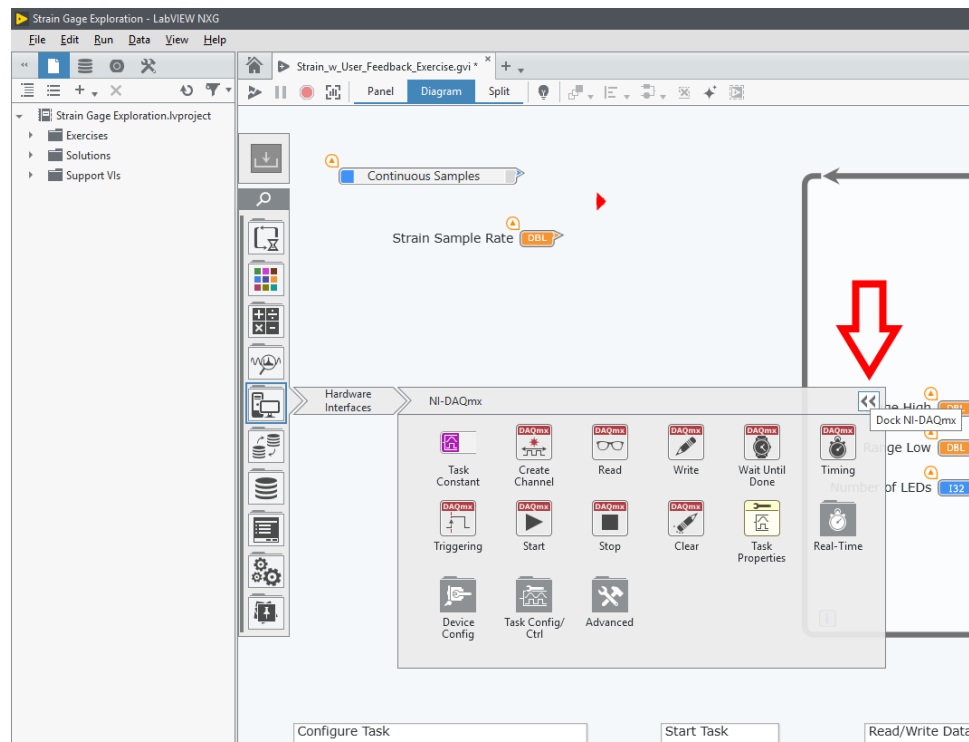

Figure 5-11 The DAQmx palette includes all the required VIs for communicating with your NI CompactDAQ chassis.
24. Click on the **double arrow**  to keep this palette visible (arrow in Figure 5-11).